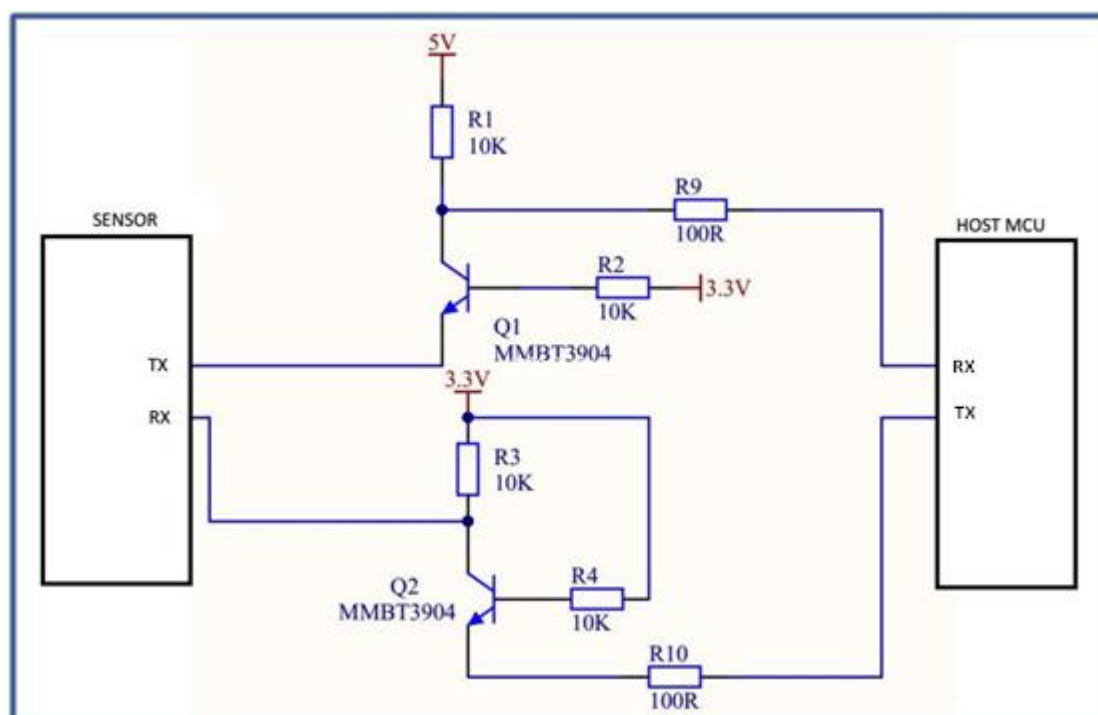

Figure 5. RX, TX Level Shift (3.3V-5V) Diagram
- The sensor needs 5V power supply because the fan needs a 5V power to drive. But all other data communication and control pins require 3.3V as a high level. Therefore, the main board MCU communication with the sensor should be the 3.3V communication level. If the main board MCU is 5V communication level, then it need to connect 5V to 3.3V level conversion chips or circuits outside the communication port (RX, TX) and control port (RET, RESET). Pls refer to figure 5.